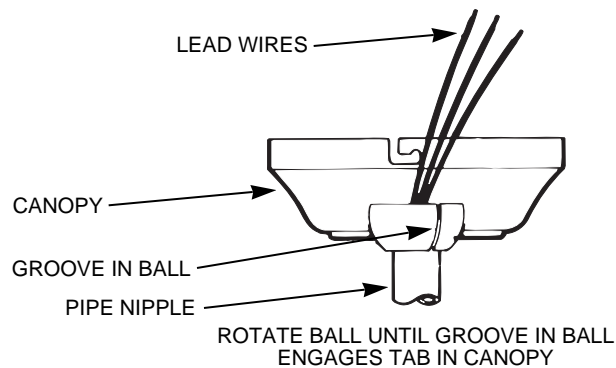

FIGURE 7
**B.** Position (2) slots in canopy directly under and in line with (2) mounting screws in ceiling plate. Lift fan until ceiling plate mounting screws are seated in bottom of slots in canopy. Rotate fan counterclockwise until both mounting screws drop into slot recesses. Tighten screws securely. Install third screw into mounting hole.
**NOTE:** For the hanging fan configuration, rotate fan until groove in ball is positioned over tab in canopy. **Make certain groove and tab are engaged before running fan.** See Figure 7. Failure to do this could result in the fan falling.